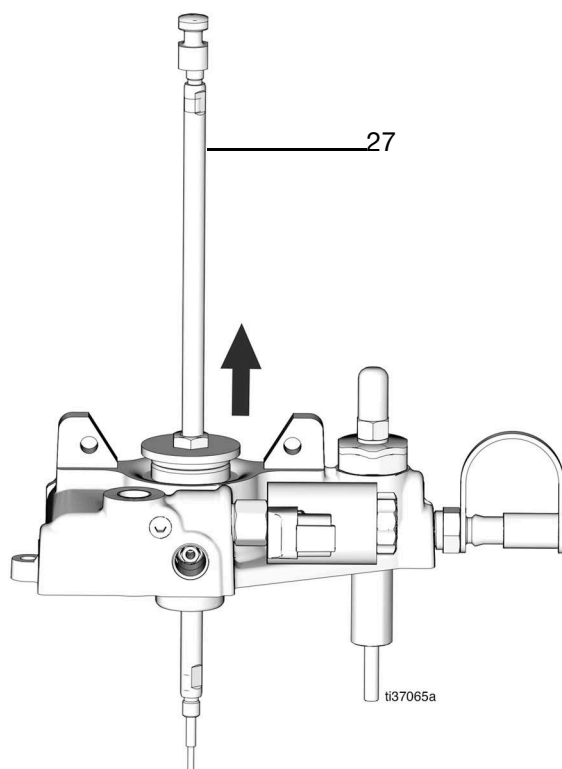

FIG. 46
29. Pull out the pump rod (FIG. 46).